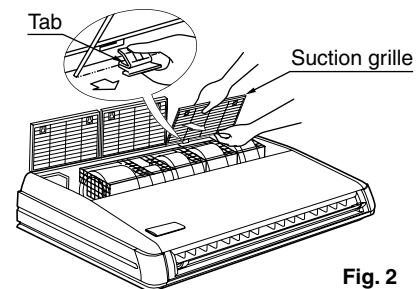

Fig. 2
- With the suction grille open, remove the suction grille forward, holding on to the rear tabs (x2) on the suction grille. **(Refer to Fig. 2)**